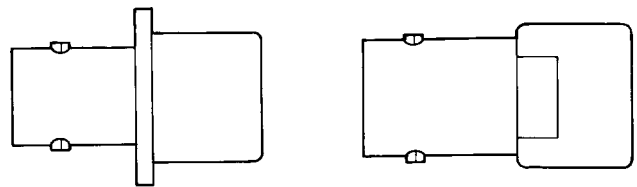

Figure 23. Typical MHV Series Connector 023023
56. **Series MHV Connectors.** These connectors are high voltage, flange mount, bayonet coupled connectors (Figure 23).